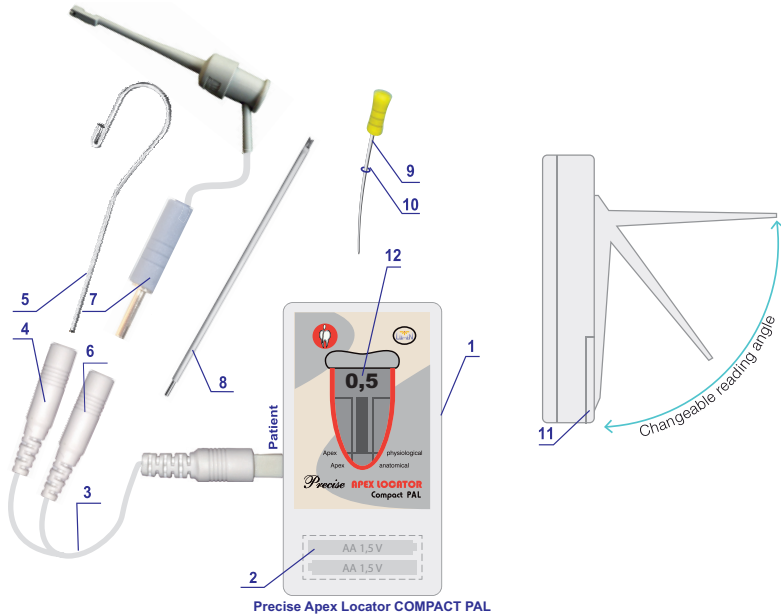

Figure 1
1. Remove cover *11* and place in the compartment 2 of the unit body 2 pcs. of 1,5V AA alkaline type batteries. Insert the cable 3 in the main unit body socket (Fig. 1).